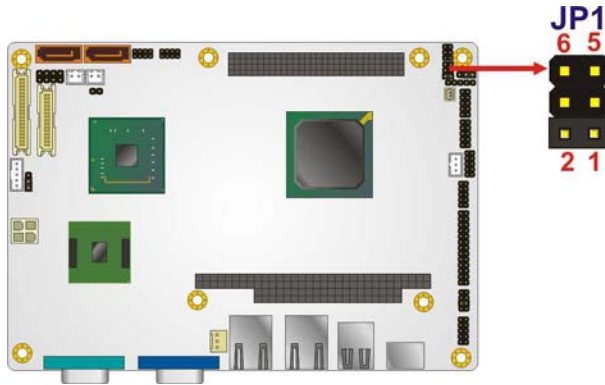

Figure 4-5: COM 2 Function Select Jumper Location
- Jumper Location:** See Figure 4-5
The COM 2 Function Select jumper location is shown in **Figure 4-5**.